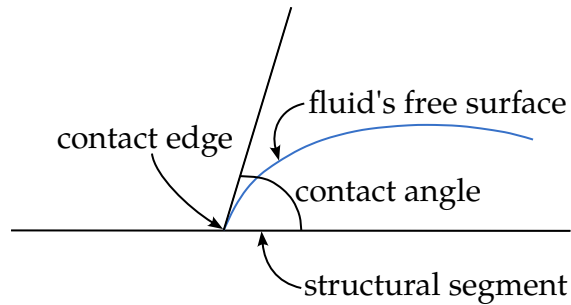

Figure 31-1. Example of contact between a structure and ISPG element. In the 3D the contact edge is the line going into the plane. In 2D, it is the point.
SCL_CE	Scale factor for the element size at the regions near the contact edges (see Figure 31-1). The element size near the contact edges is $SCL_CE \times D_{avg}$ for the refinement. Here, D_{avg} is the original average element edge length for the ISPG elements. The default value of SCL_CE is 1.0. If SCL_CE is smaller than 0.333, then it is reset to
2. **Staggering algorithm.** Usually, the ISPG contact edges (see Figure 31-1) move by internal forces (e.g., pressure and viscosity forces) and external forces (e.g., surface tension forces and wall adhesion forces). But at some sharp corners of the structure, it is difficult to determine the normal vector of the contact needed for calculating the wall adhesion and normal contact forces. The strong discontinuity in the structural segments causes this issue. We implemented a staggering algorithm to handle this scenario. In these regions, the ISPG edge staggers forward or backward depending on the contact angle (see *DEFINE_ISPG_TO_